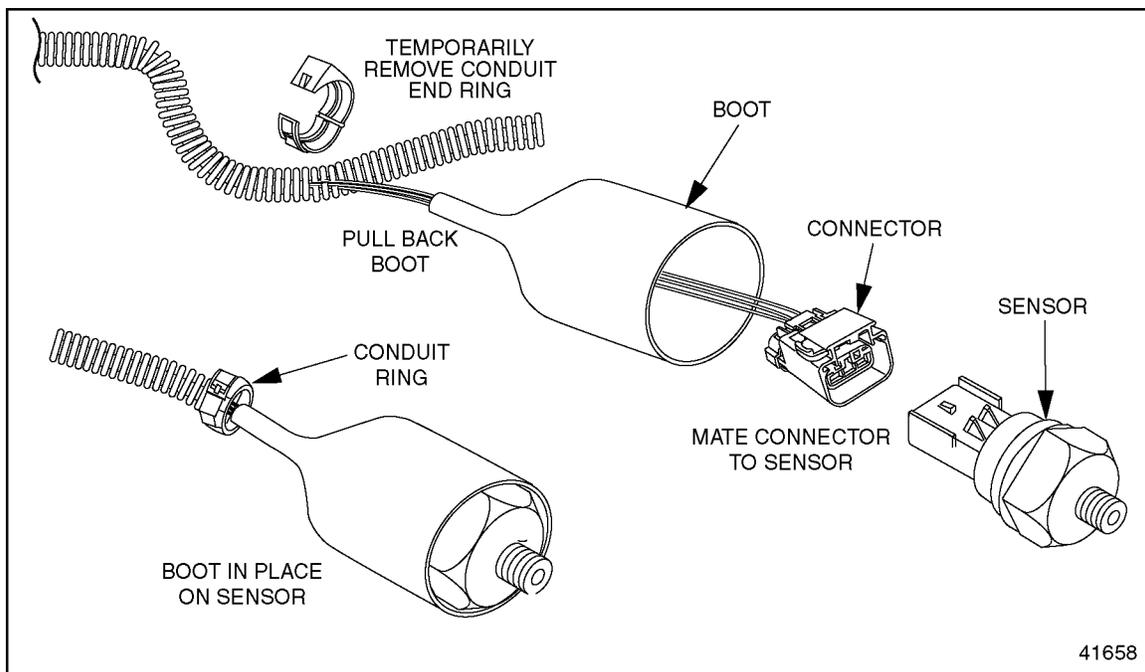

Figure 5. Exhaust Back Pressure Sensor with Sensor Boot
The exhaust back pressure sensor requires an external boot for protection against moisture intrusion. This boot is part of the ETPH. See Figure 5.
- 10. As shown in Figure 5, remove the conduit end ring from the exhaust pressure branch of the ETPH. Pull some of the wire out of the conduit, then pull the boot back clear of the connector plug. Install the plug (5) into the sensor, making sure that the secondary (red) connector lock is engaged.
- 11. Pull the boot down so that it covers the sensor and is snug on the stainless hex. See Figure 5. Put the wire back into the conduit and install the conduit end ring.
- 12. Route the harness branch for the exhaust temperature sensor along existing wire looms in the vehicle where possible. Install the plug (6) into the mating connector (7) from the exhaust temperature sensor. Tie wrap this interconnection to a secure location to minimize movement.